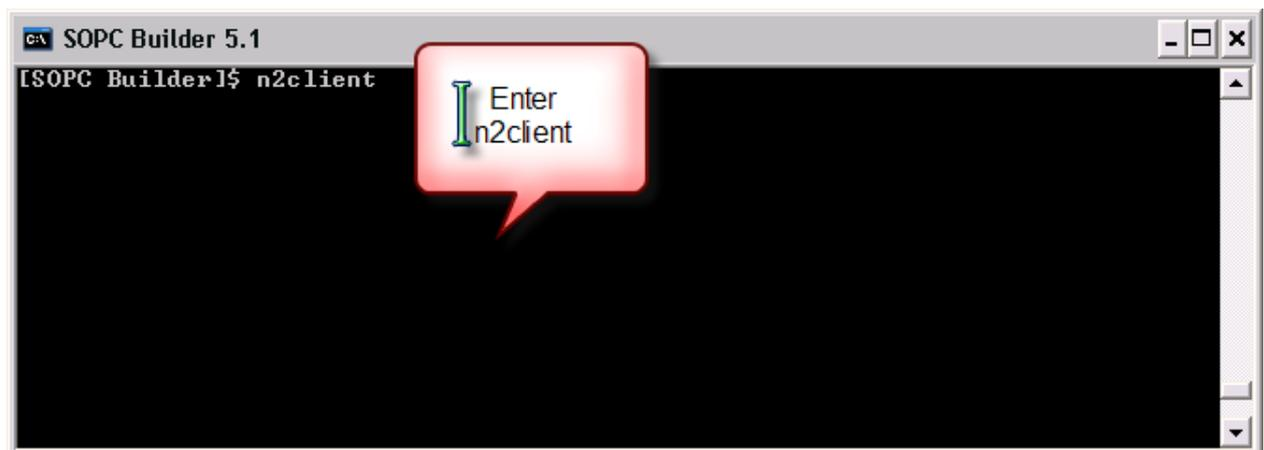

Figure 6: Starting the Nios II Debug Client.
2. The Nios II Debug Client can now be started from the Nios II SDK shell as shown in Figure 6. Enter the command `n2client` in the SDK shell and press Enter.